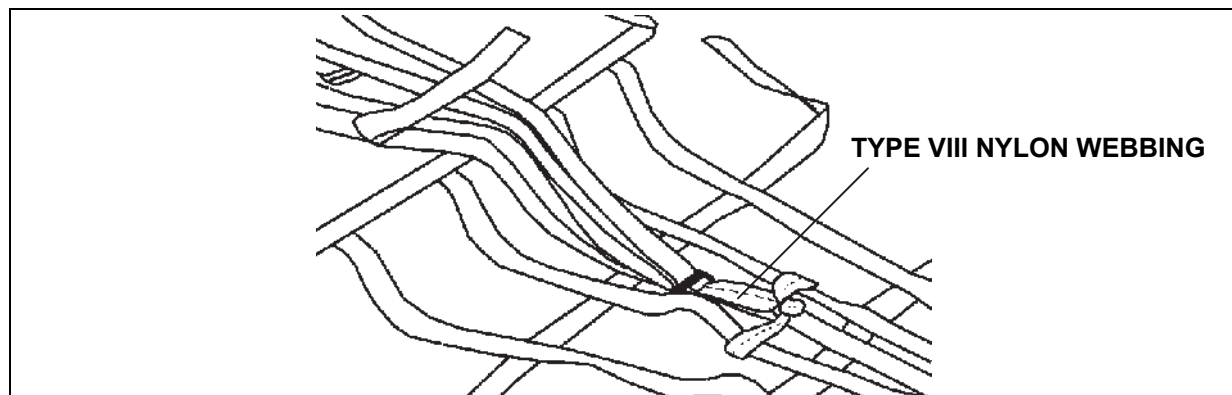

Figure 8-11. D-Ring Tied to Sling Assembly
- Use a length of Type VIII nylon webbing to tie the support web D-rings exposed at the front and rear of the load to the other A-22 sling assembly as shown in figure 8-11.